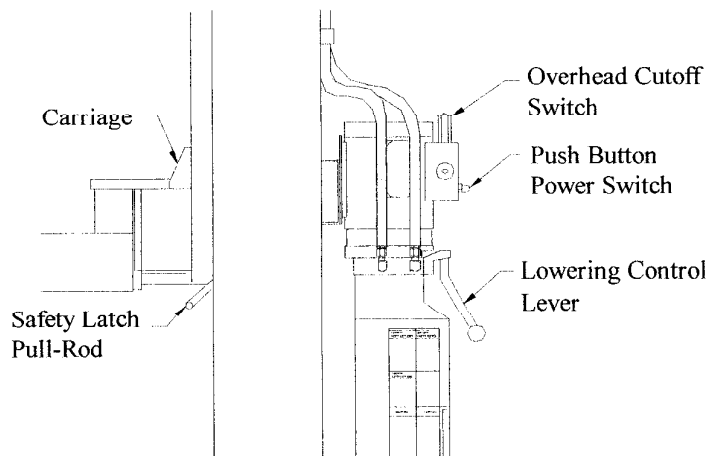

FIGURE 14
31. Lower the lift to the ground. To do this, first manually raise the carriages just enough to release the latches using the push button switch on the power unit. Pull out the latch pull rods under each carriage, then lower the lift by pushing the lowering control lever on the power unit. **KEEP FEET OUT FROM UNDER THE CARRIAGES. THEY CAN DROP VERY SUDDENLY.** Figure 14.